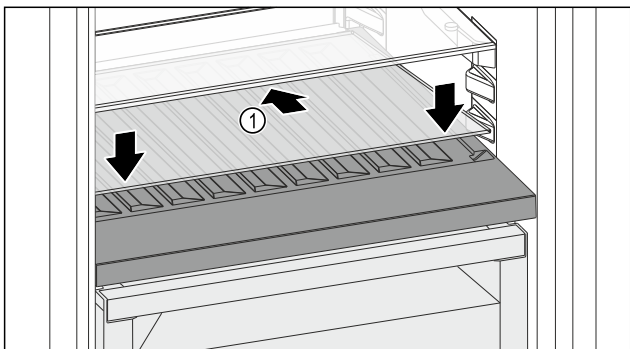

Fig. 176
- ▶ Place the glass shelf Fig. 176 (1) at an angle, sloping it downwards and backwards.
- ▶ Lower the glass shelf Fig. 176 (1) at the front.